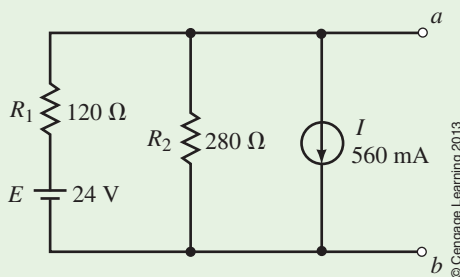

FIGURE 9-39
- Steps 1 and 2:** After removing the load, (which consists of a current source in parallel with a resistor), we have the circuit of Figure 9-39.